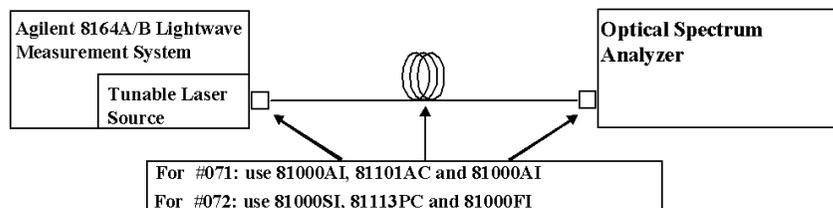

Figure 40 Test Setup for Total Source Spontaneous Emission Test - High Power output
- 1 Connect the Tunable Laser module (DUT) to the Optical Spectrum Analyzer as shown in Figure 40: